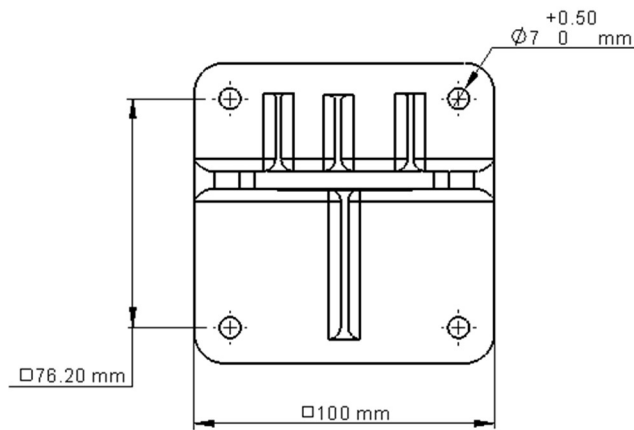

Figure 13: Tilt Mount Base - Front View
- a) Mount the tilt mount base (Figure 13: Tilt Mount Base - Front View) to a solid structure using four suitable fixings through the four 7mm (0.28") diameter holes. Four captive screws with spring washers are provided in the tilt mount.
Referring to Figure 13 use the following steps to connect the detector to the tilt mount: